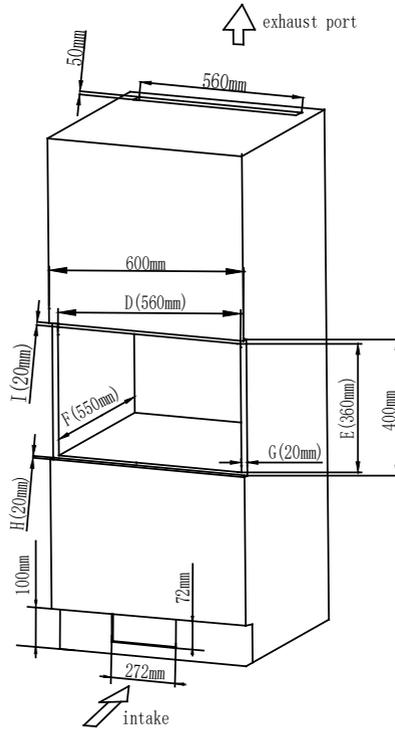

Fig. 5
Opening size: (D)560±2 x (E)360±2 x (F)550±2 (mm) as shown in Fig.5 “D”, “E”, “F”.